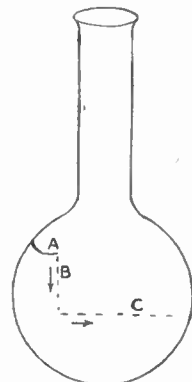

Fig. 1—An evaporating basin from a cracked flask
If the crack is in the position (A) in Fig. 1, it must be extended downward via the vertical dotted line (B) to the dotted line (C). Once at (C) keep reheating the rod in the bunsen or spirit lamp flame and placing it about $\frac{1}{16}$ in. beyond the end of the crack.